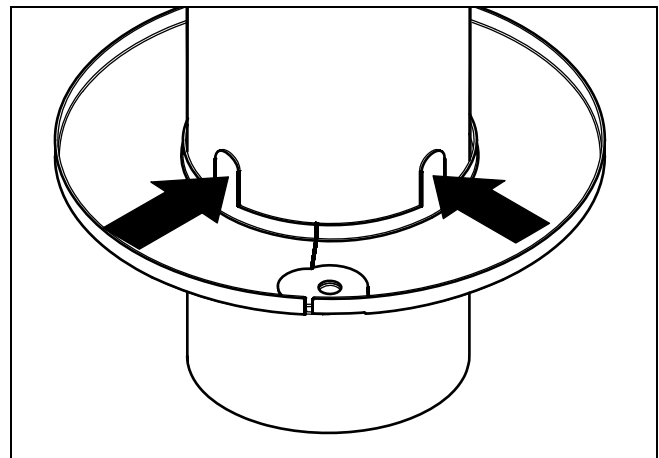

Figure 2
4. Press tabs in toward pipe to hold CMA in place at the ceiling. (See Figure 2)